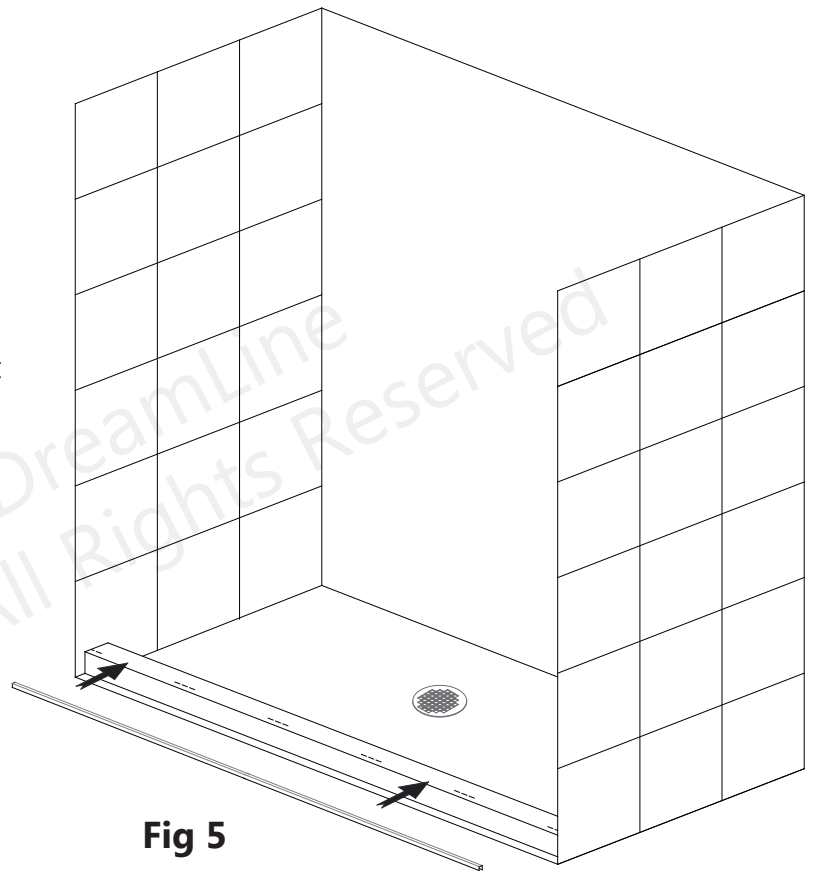

Fig 5
5. Replace the **Bottom Rail (#21)** onto the **marked position** on the threshold. **(Fig 5)**